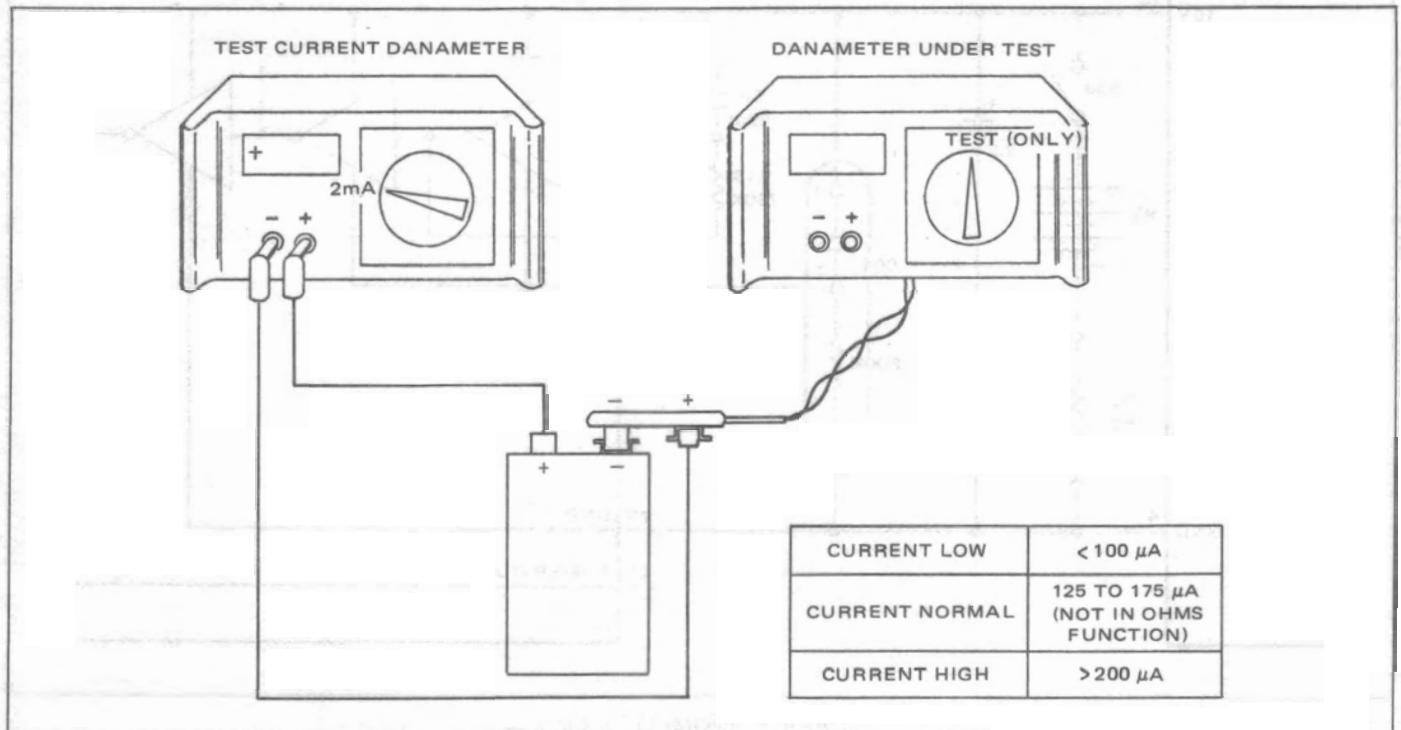

Figure 4.2 - Danameter Current Test Set-up Diagram
4.1.2 The 9V battery used to provide operating voltages for the Danameters have very little current drain under normal operating conditions, as shown in Figure 4.2.